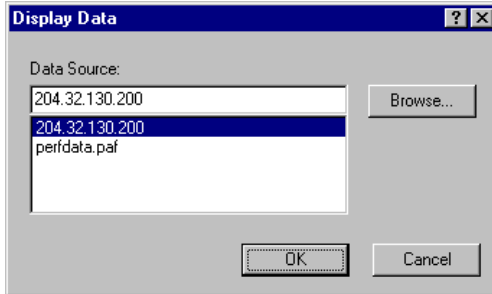

Figure 5-31. Display Data
1. Click Display Data. A display Data dialog box opens (Figure 5-31).